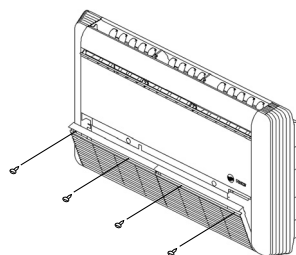

Figure 7
6. Unscrew at the return grille (Figure 7).